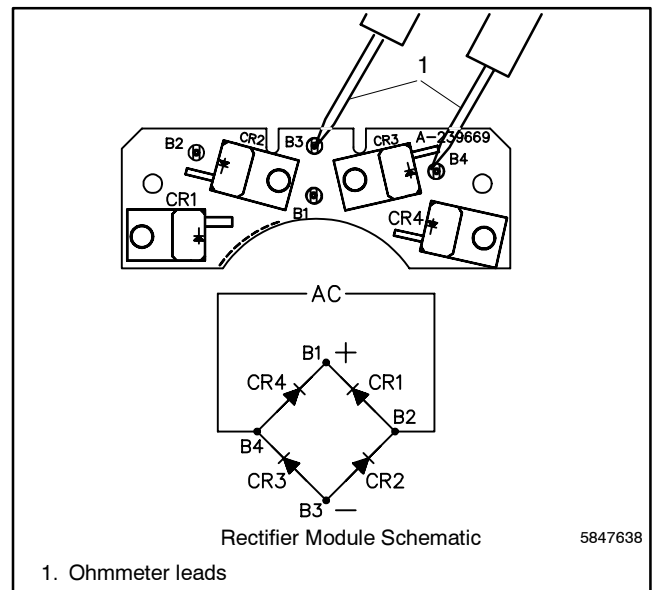

Figure 5-36 Testing Rectifier Module
2. Use an ohmmeter on the R x 100 scale to check resistance between rectifier diodes as shown in Figure 5-36. To test CR3, for example, place ohmmeter leads on rectifier terminals B3 and B4. The ohmmeter should show a low resistance in one direction and, upon reversing ohmmeter leads, a high resistance in the other direction. Replace the rectifier module if any of the diodes tests different than described.